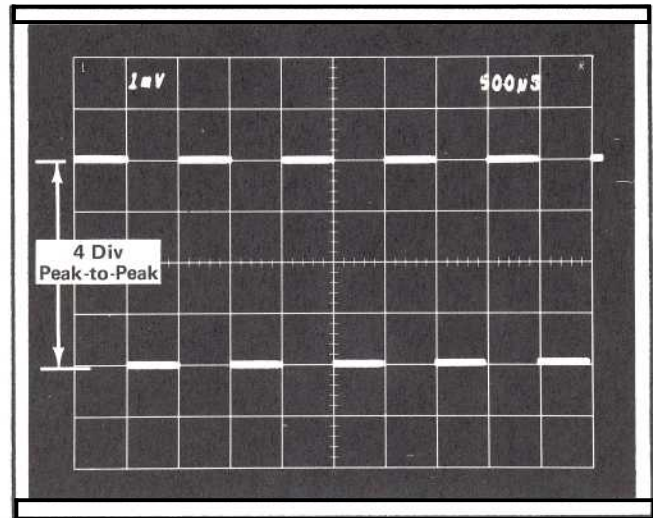

Fig. 5-4. Waveform display obtained showing correct vertical gain at 1 mV/div. Sweep rate: 0.5 ms/div.
c. **CHECK**—CRT display for exactly 4 divisions of vertical deflection (see Fig. 5-4).